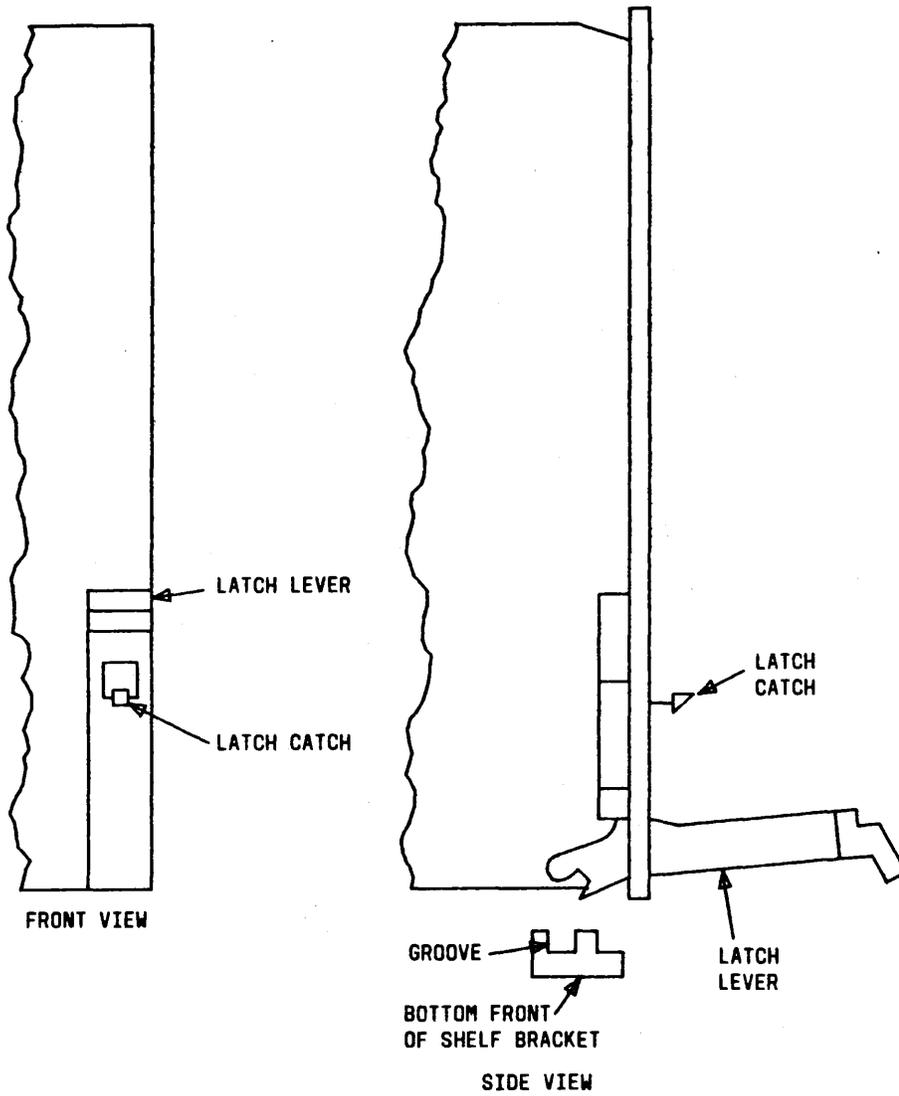

Fig. 1—Front and Side View of Typical Plug-In Unit
4. On the plug-in unit to be removed, release the latch catch and pull the latch lever out and down until plug-in unit is disengaged from its backplane connector (Fig. 1).
9.	With the latch lever pulled out, slide the replacement plug-in unit into the shelf until the latch lever is positioned over the groove in the bottom front shelf bracket (Fig. 1).